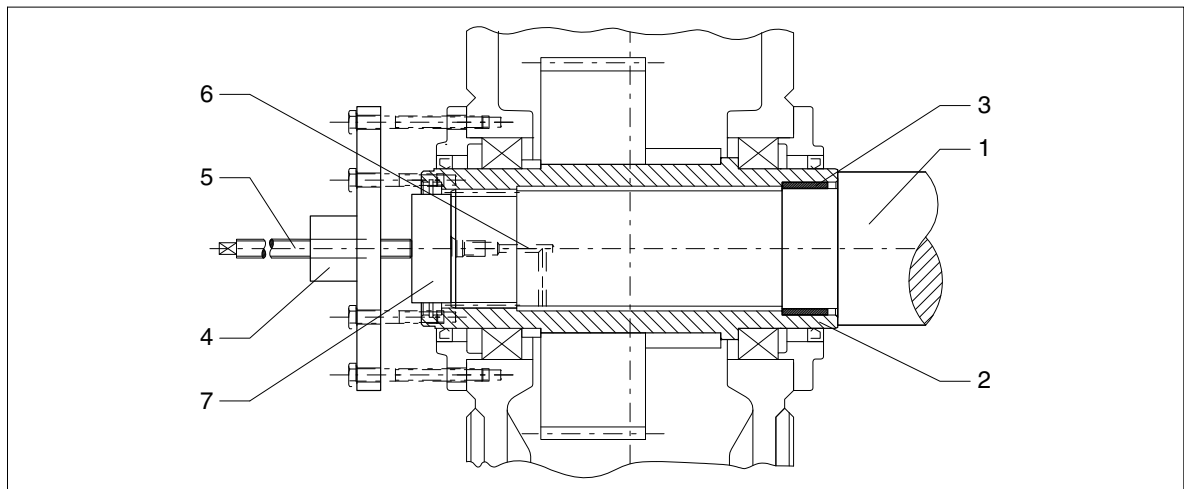

Fig. 50: Hollow shaft with internal spline, demounting with hydraulic lifting unit
- When the rust-releasing agent has taken effect, pull the gear unit off with the device (see figures 50 and/or 51).
- preferably using a hydraulic lifting unit (see figure 50)
If the support is provided not only by the hollow shaft, but also by the housing, as shown in figure 50, the forces used must not exceed the values given in the following table 17.